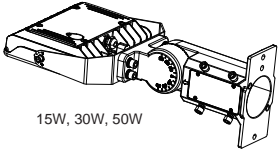

Figure 39
Step 1: Remove the spare parts, the remaining parts as shown in Figure 39;